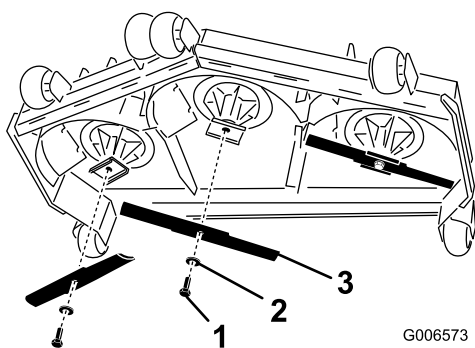

Figure 1
1. Remove the 3 existing blades from the mower deck. Retain the blades for use in rear discharge mode (Figure 1).